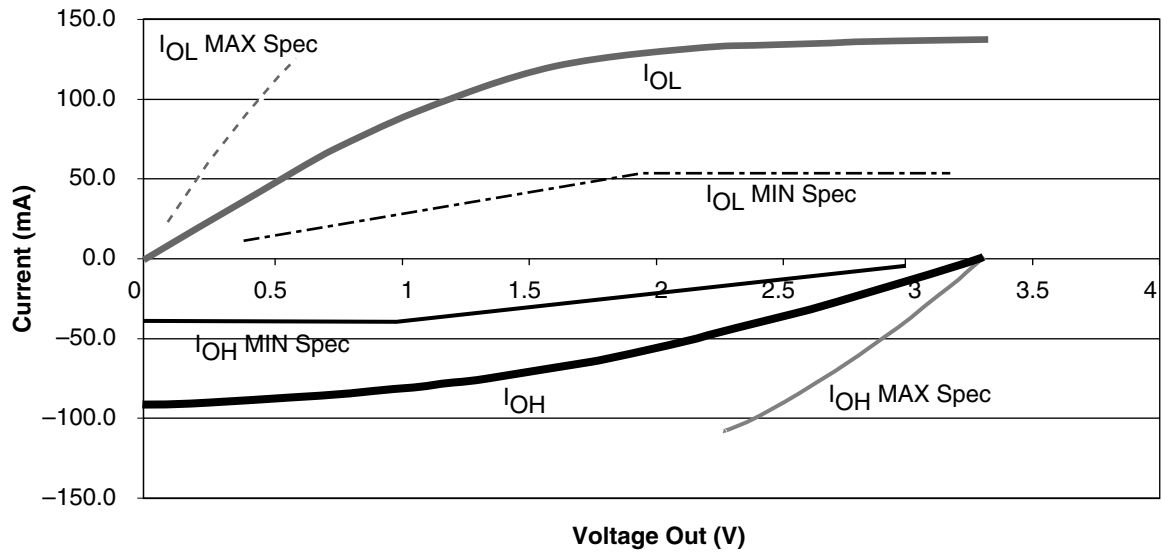

Figure 12 • 3.3V PCI V/I Curve for SX-A Family
1. Refer to the V/I curves in Figure 12 on page 17. Switching current characteristics for REQ# and GNT# are permitted to be one half of that specified here; i.e., half size output drivers may be used on these signals. This specification does not apply to CLK and RST#, which are system outputs. "Switching Current High" specifications are not relevant to SERR#, INTA#, INTB#, INTC#, and INTD#, which are open drain outputs.
2. Maximum current requirements must be met as drivers pull beyond the last step voltage. Equations defining these maximums (C and D) are provided with the respective diagrams in Figure 12 on page 17. The equation defined maxima should be met by design. In order to facilitate component testing, a maximum current test point is defined for each side of the output driver.
Figure 12 shows the 3.3V PCI V/I curve and the minimum and maximum PCI drive characteristics of the SX-A family.